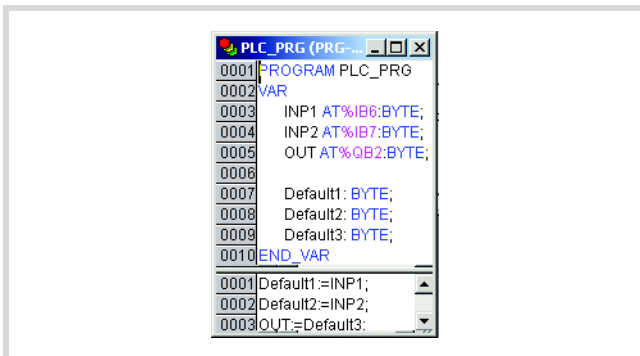

Figure 81: User program for XC200
► Create the program in accordance with Figure81.